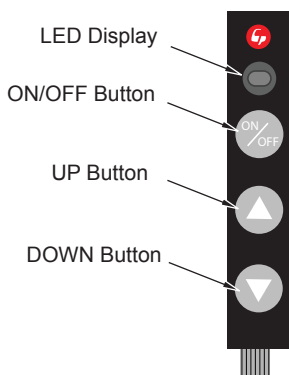

Figure 44 - Touch Pad Control
This touch control has only 3 buttons for controlling manually the flame of the appliance (see Figure 44).
1. To increase the flame level, press the up button (▲). A beep and a flash of the LED indicate that the system has accepted the order, and the flame will increase instantly (see Figure 44).
2. To decrease the flame level, press the down button (▼). A beep and a flash of the LED indicate that the system has accepted the order, and the flame will decrease instantly (see Figure 44).